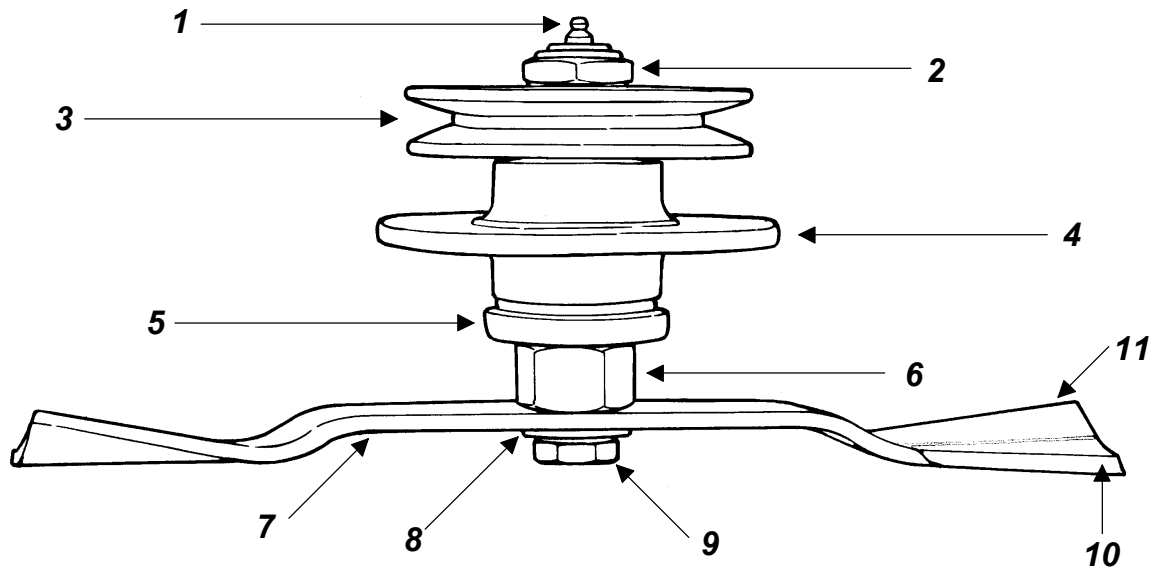

Fig. 11
1. The blade turns in a **counter clockwise** direction when viewed from the bottom of the deck. The cutting edge must be towards the direction of rotation. The lift wing of the blades is closest to the deck and the cutting edge away from it (**see fig. 11**).
2. Install the cup washer (**see fig. 11**) over the blade bolt and secure the blade in place as described above.